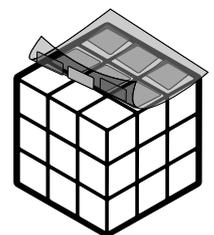

fig 5
6. Leaving the set of labels attached to the carrier film you can now stick them to your Rubik's Cube. Ensure the cube is free from dust and grease to achieve a good bond. Rub the labels down onto the cube face, avoiding air bubbles. Now carefully remove the carrier film leaving the labels stuck to the cube. fig 5